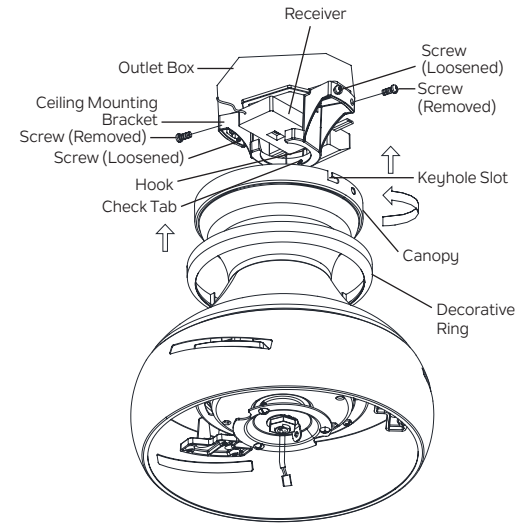

Fig. 17
Step 2. At the top of the ceiling mounting bracket, there are 4 preinstalled screws (2 on each side). On each side of the ceiling mounting bracket, loosen the first (left) screw just enough so that the screw will be able to lock into a “keyhole” slot in the canopy. Remove the second (right) screw. (Fig. 17)
Step 4. Reinstall the 2 screws that were removed into the aligned holes in the canopy and the ceiling mounting bracket. Tighten all 4 screws to secure. (Fig. 17)